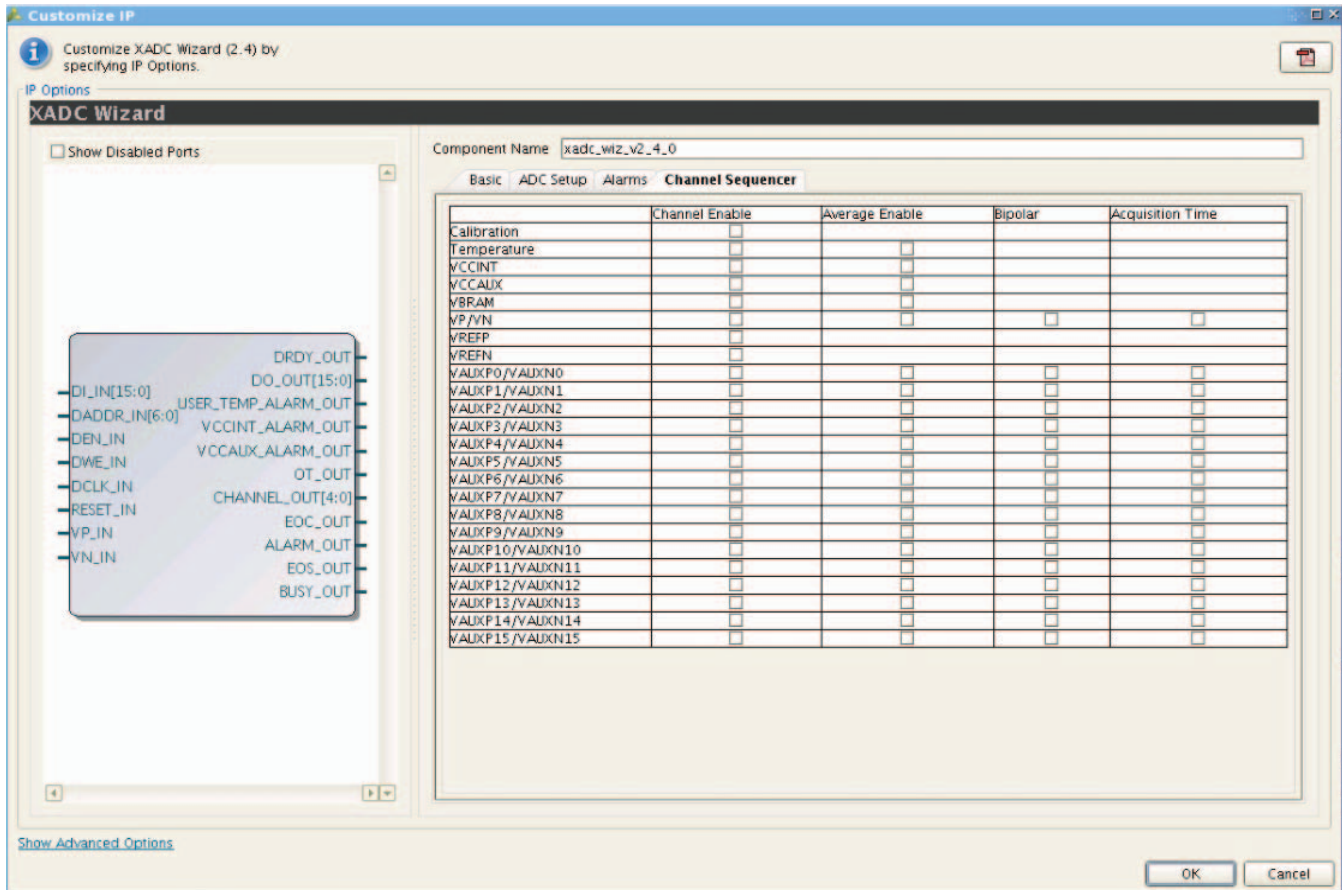

Figure 4-6: Channel Sequencer Tab
- **Channel Sequencer** – Choosing this mode, allows you to select any number of channels to monitor. The channels to be used for this mode can be selected on Figure 4-6, page 40.
Channel Sequencer (Figure 4-6) is used to configure the XADC sequence registers when the XADC is configured in Channel Sequencer, Simultaneous sampling, or Independent ADC mode. All the possible channels that can be included in the sequence are listed in the table spread across Figure 4-6 of the Wizard: